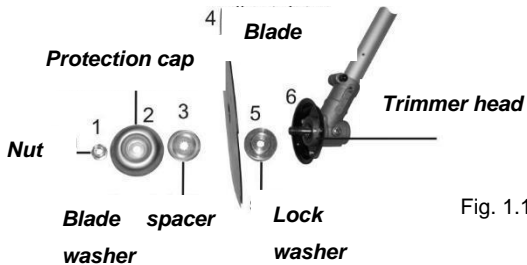

Fig. 1.1
- Installing the blade or trimmer head is done correctly according to the information in Fig 1.1